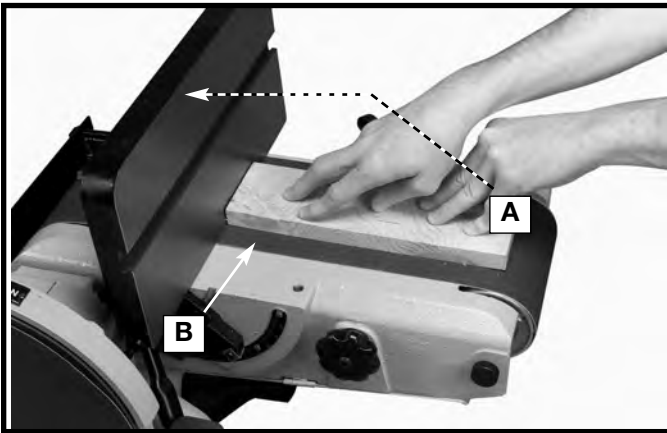
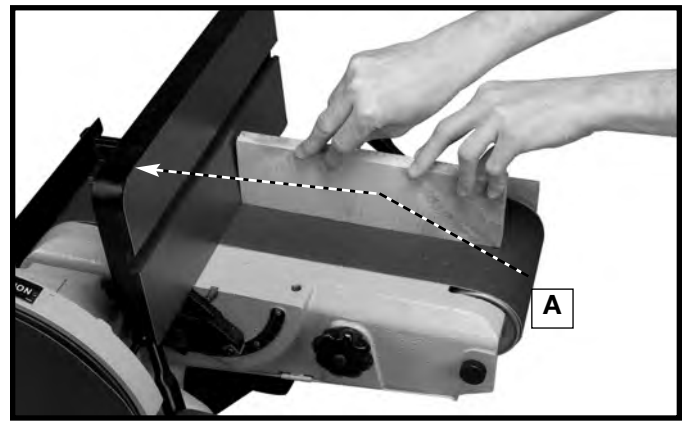

Fig. 44
Fig. 45
When surfacing (Fig. 44) or edge sanding (Fig. 45), place the sanding arm in the horizontal position and use the table (A) Fig. 44 and Fig. 45 to keep the workpiece in place. Hold the workpiece firmly and keep your fingers away from the sanding belt. Place the end of the workpiece against the table and move the workpiece evenly across the sanding belt. Apply only enough pressure to allow the sanding belt to remove material. Use extra caution when sanding very thin pieces.
⚠ WARNING POSITION THE EDGE OF THE TABLE (A) FIG. 44 A MAXIMUM OF 1/16" AWAY FROM THE SANDING BELT (B) TO AVOID TRAPPING THE WORKPIECE OR YOUR FINGERS BETWEEN THE TABLE AND THE SANDING BELT.